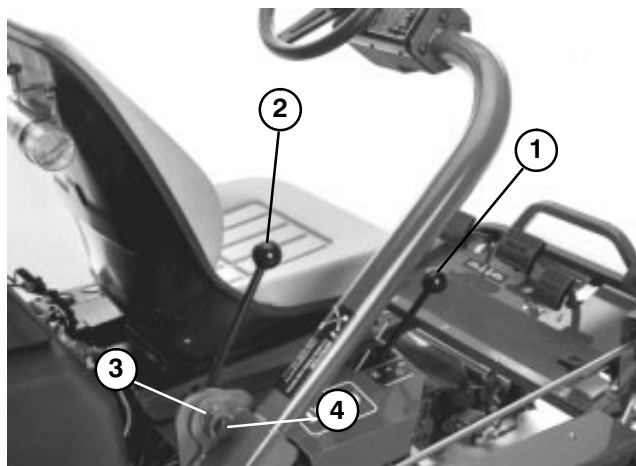

Figure 20
SHIFT SELECTOR (Fig.20) – Located on the top of the right hand panel. Provides two (2) traction selections, plus a “NEUTRAL” position. It is permissible to shift from one selection to another while the Greensmaster 3100 is in motion. No damage will result.
STEERING ARM LOCKING LEVER (Fig.20) – Rotate lever rearward to loosen adjustment, raise or lower steering arm for operator comfort, then, forward to tighten adjustment.